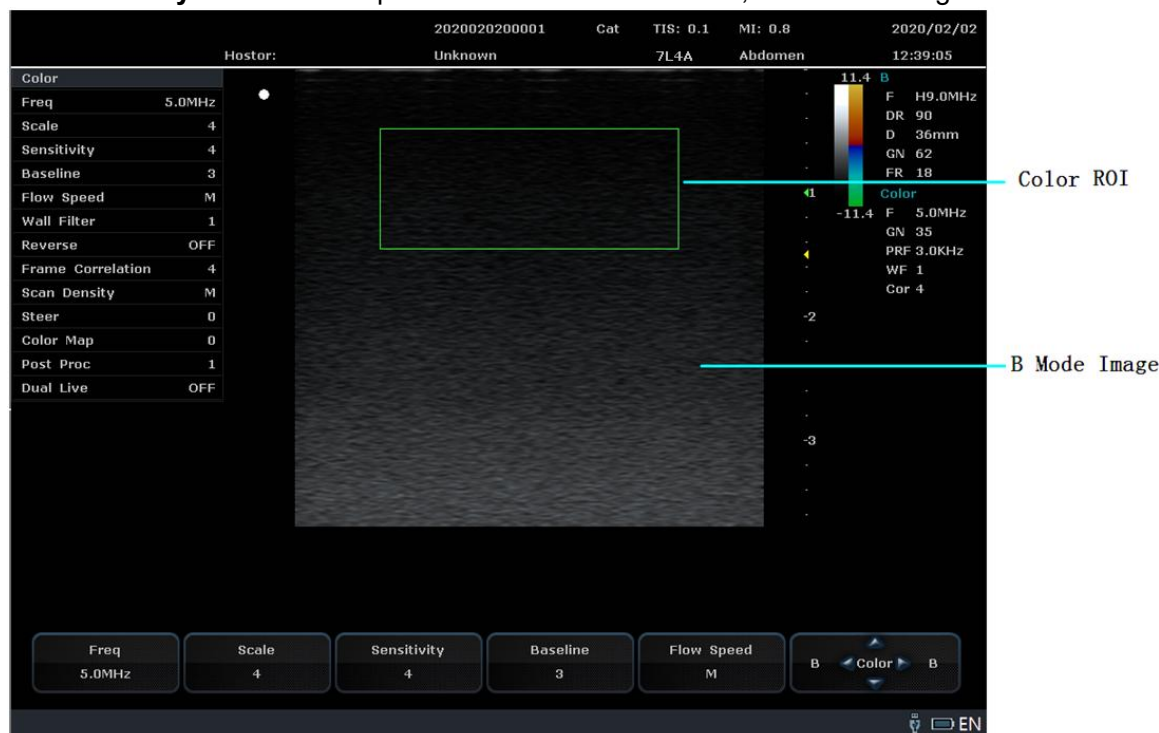

Figure 6-3 Color Doppler Mode Image
2. Press the **Color key** on the control panel to enter the color mode, as shown in Figure 6-3.